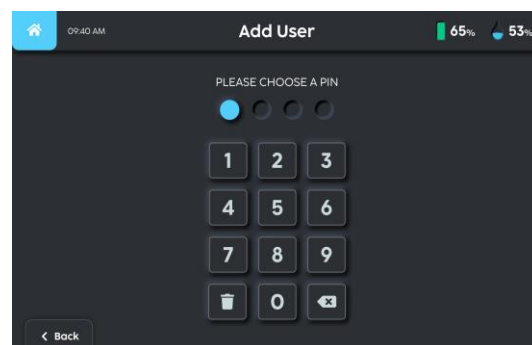

FIGURE 3-25
4. Assign a 4-digit pin to the user (Fig. 3-25).